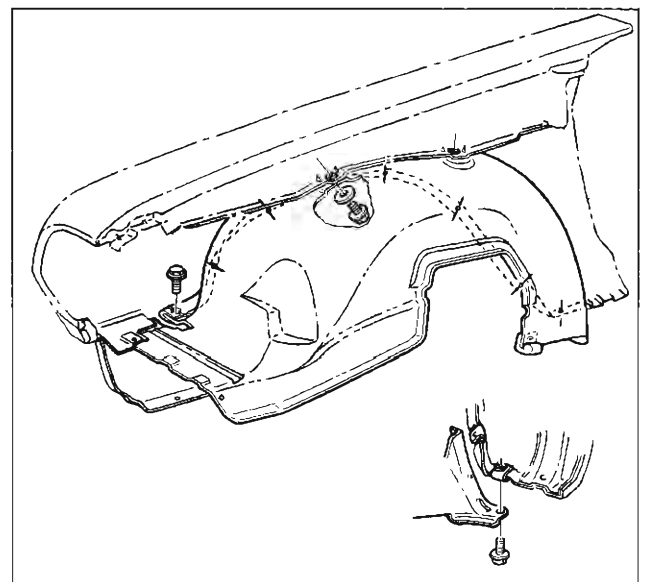

Fig. 19—Fender to Fender Skirt
**Removal (Fig. 19)**
1. Remove grille assembly (See Section ), filler, panel end attachment to fender and skirt extension (fig. 19) and battery tray.